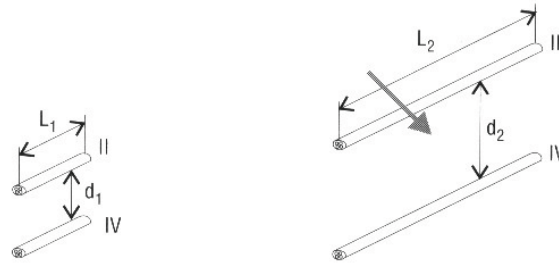

Fig. 4: Spacing between different cable groups
- Spacing between groups I, II and III, IV (see figure 4). Following distances have proven to be suitable: